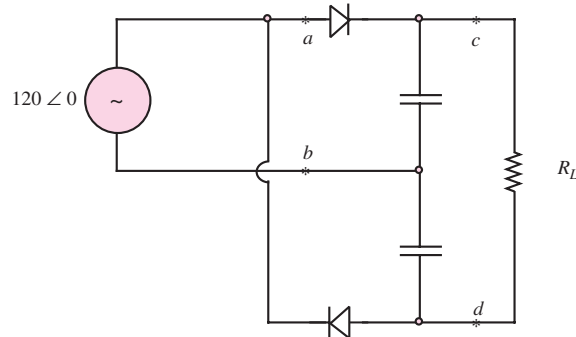

Figure P12.22
12.22 A DC power supply known as a *voltage doubler* is shown in Figure P12.22. It is assumed that the capacitors are large enough that the ripple is not